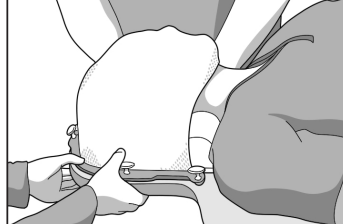

Fig. 3
5. Stretch the thermoplastic superiorly 15 to 20 cm (6 to 8 in), back down onto the device (Fig. 3).